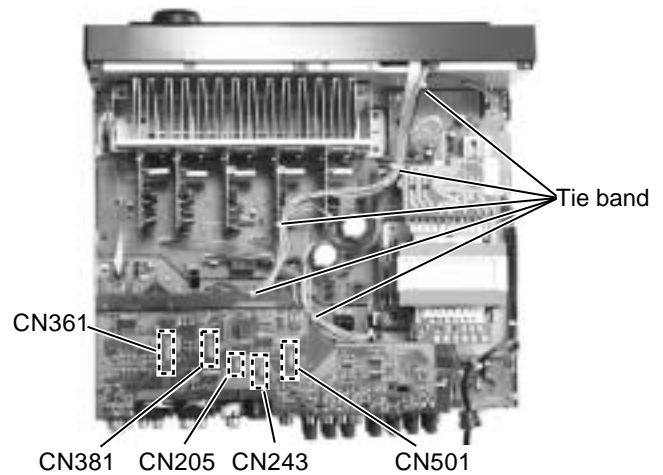

Fig.6
■ Removing each board connected to the rear side of the audio board (See Fig.6 to 12)